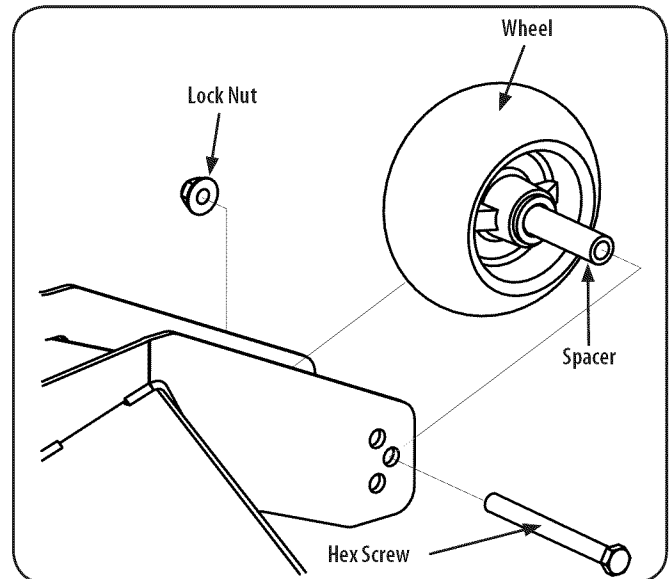

Figure 22
2. Remove the lock nut securing one of the front gauge wheel hex screws to the deck. Remove the gauge wheel, hex screw and spacer. See Figure 22.